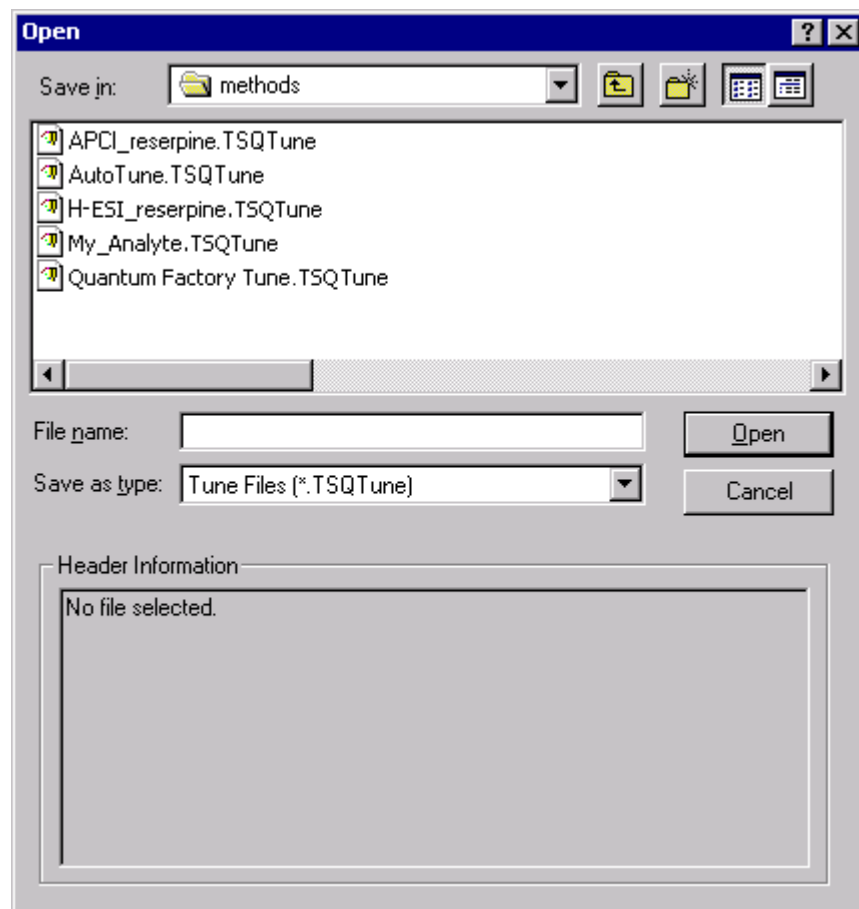

Figure 5-6. Open Tune Method dialog box
- a. On the File / Display toolbar, click on the Open File button to display the Open dialog box. See Figure 5-6.